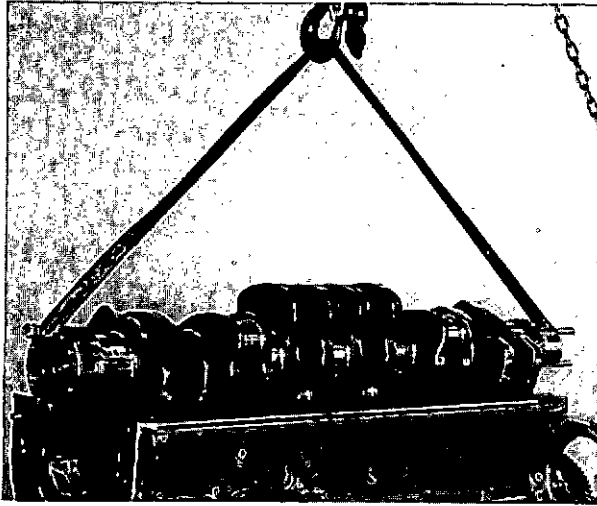

Fig. 0-58. Remove The Crankshaft.
4. Use a hook protected with a rubber hose or a lifting strap to remove the crankshaft, Fig. 0-58. Be careful not to damage the surface of the crankshaft.